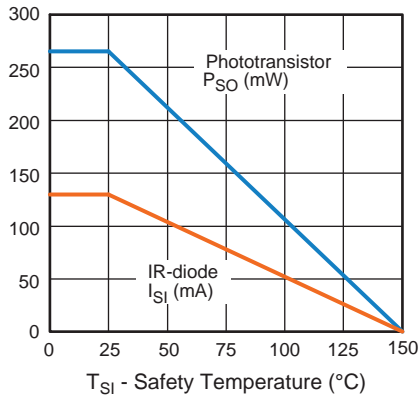

Fig. 4 - Derating Diagram
- According to DIN EN 60747-5-5 (VDE 0884), § 7.4.3.8.2, (see Fig. 4). This optocoupler is suitable for safe electrical isolation only within the safety ratings. Compliance with the safety ratings shall be ensured by means of suitable protective circuits